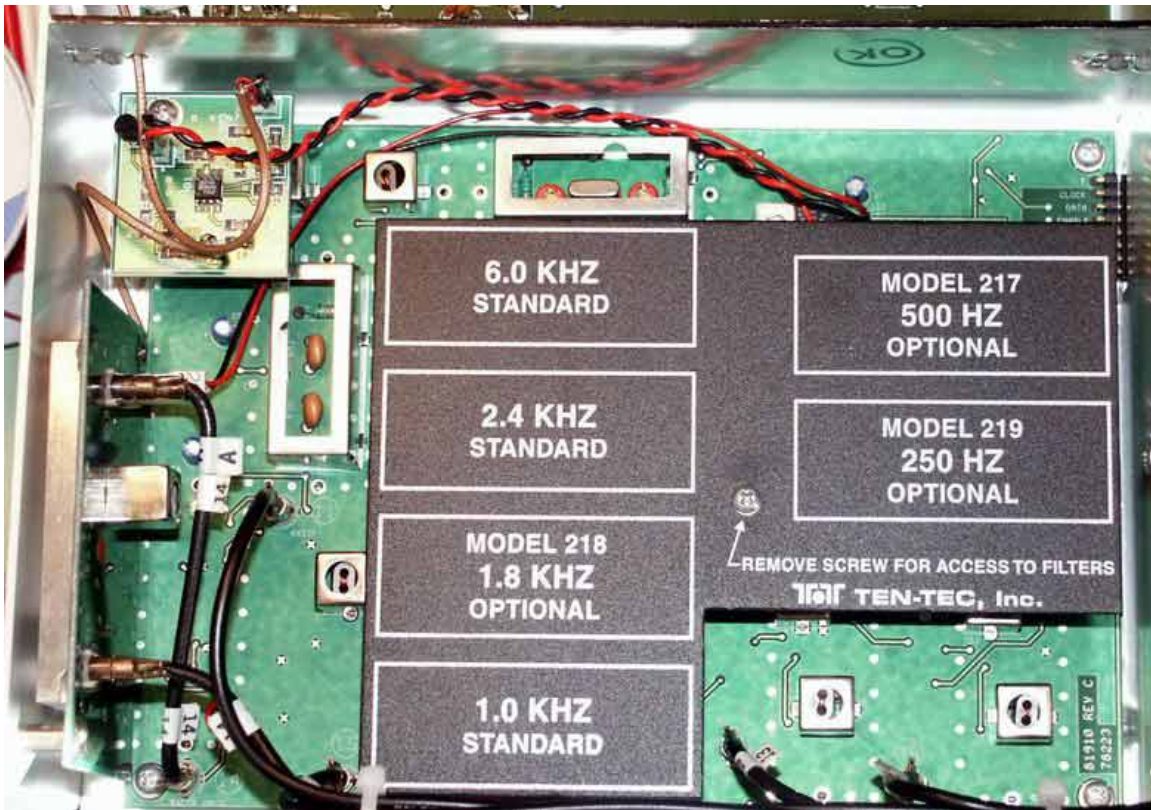
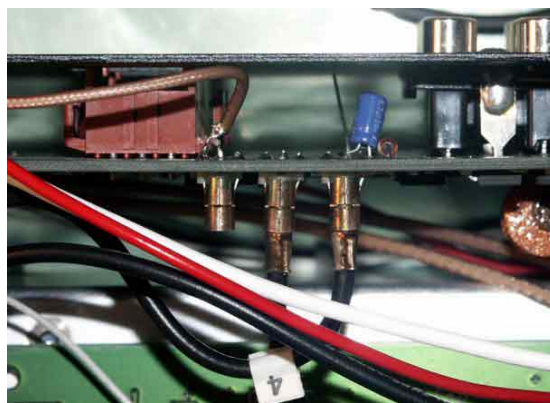

Figure 7: Modified 9 MHz IF board with Z10000 Buffer at upper left
Figure 8: Spare jack connection
13. Mount the Z10000 buffer with a 1 inch metal stand-off and appropriate longer 4-40 screw in the upper left corner of the 9 MHz IF enclosure (Figure 7 below).
15. The output from the Z10000 buffer was fed through an **existing hole** between the IF board and the Low Pass Filter board (see Figure 7 above). The cable was run through existing zap straps on the left of the chassis and along the rear of the rig to the **SPARE** connector jack. The coax was soldered to the rear of the mini coax connector labelled **SPARE**. (Figure 8 below is **looking down** on the internal connector for the **SPARE** jack. The buffer output is the small brown cable coming in from the upper left.)